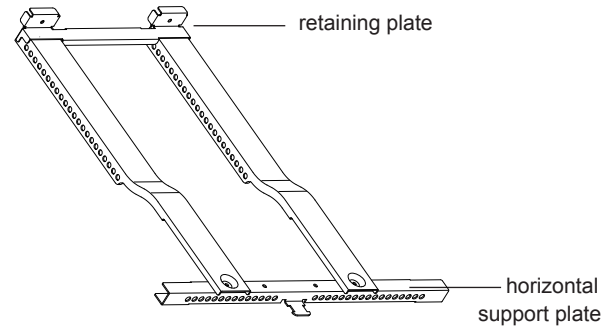

Fig.1
A. Connect the retaining plate and support rail via snaps. And fix the horizontal support plate to the main support connection plate with screws. See Fig1.